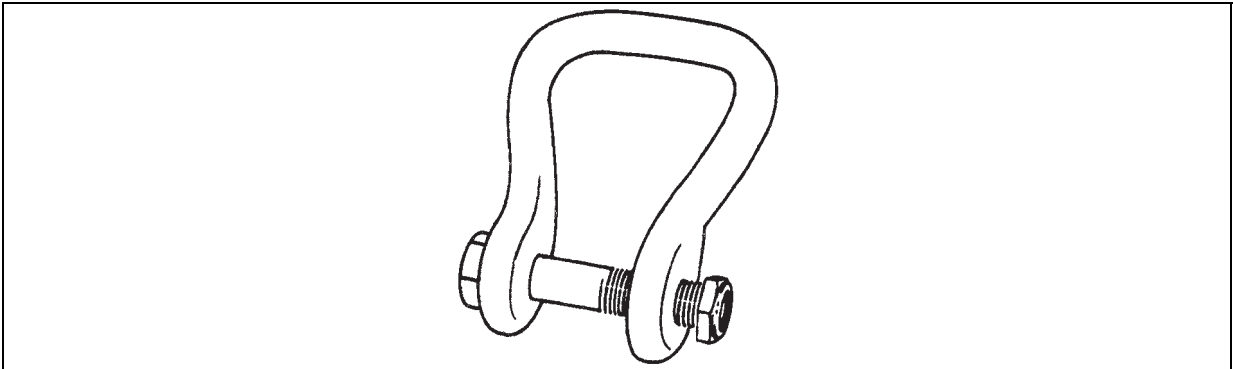

Figure 8-32. Large Clevis Assembly (Part No. MS 70087-3)
- **Large Clevis.** The large clevis (figure 8-32) can be used to lift a load that weighs up to 12,500 pounds if it has only one attachment point. If the load has four attachment points and a large clevis is used at each lifting point, the maximum load weight that can be lifted is 31,500 pounds. If the load has two or three attachment points, the maximum load weight is 15,750 and 23,625 pounds, respectively. The large clevis is often used as a junction point when suspending an accompanying load under a howitzer. The large clevis uses a 1-inch bolt and nut.